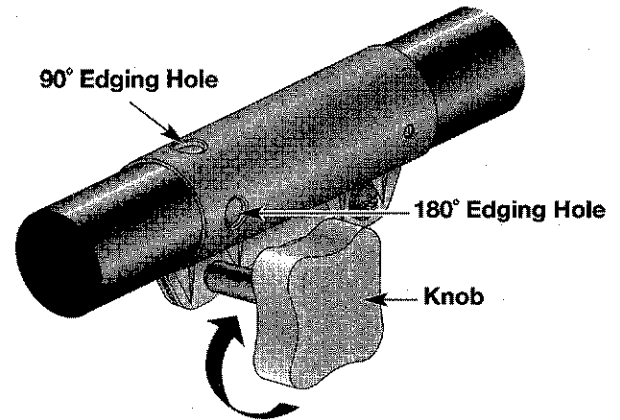

Fig. 26
3. Turn the knob clockwise to tighten (Fig. 26).
For edging when using the line head cutting attachment with Quick-Link® models, lock the release button of the cutting attachment into the **90° edging hole** or the **180° edging hole**(Fig. 26).